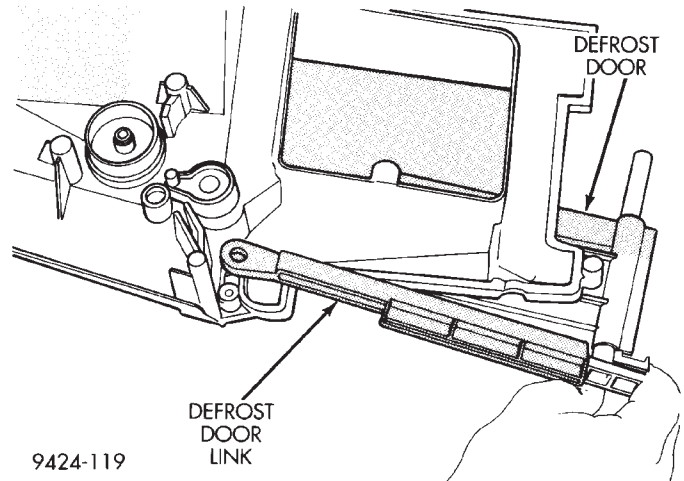

**Fig. 84 Defrost Door and Link**
- (1) Install vent door actuating arm to lower housing.
- (2) Install defrost door link to defrost door.
- (3) Install door and link into A/C housing (Fig. 84).